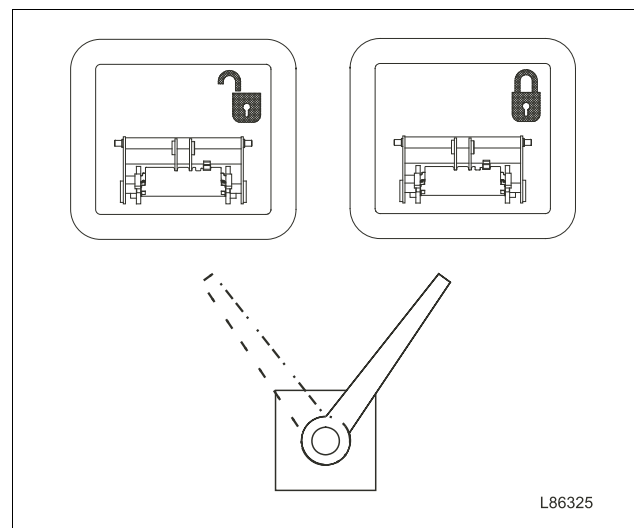

Fig. 25 Releasing and locking the hydraulic quick-mount hitch
- Ball valve in position "Unlock quick-mount hitch" (Fig. 25).
- Ball valve in position "Quick-mount hitch locked" (Fig. 25).